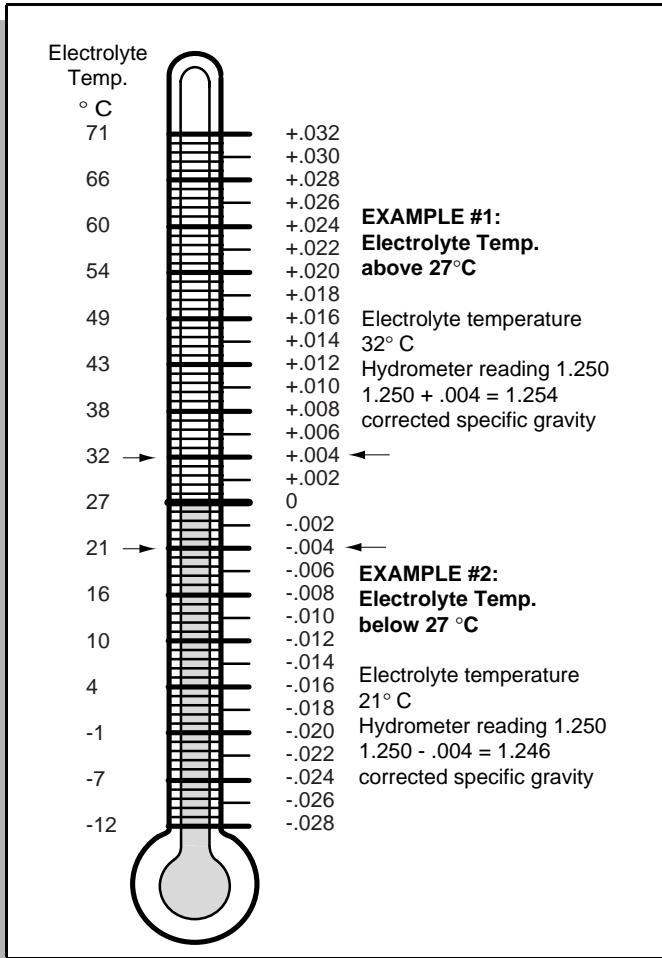

Fig. 54 Hydrometer Temperature Correction
4. Add or subtract four points (.004) to the reading for every 6° C the electrolyte temperature is above or below 27° C. Adjust the reading to conform with the electrolyte temperature, e.g., if the reading indicates a specific gravity of 1.250 and the electrolyte temperature is 32° C, **add** four points (.004) to the 1.250 which gives a corrected reading of 1.254. Similarly if the temperature was 21° C, **subtract** four points (.004) from the 1.250 to give a corrected reading of 1.246 (Ref Fig. 54 on page 32).